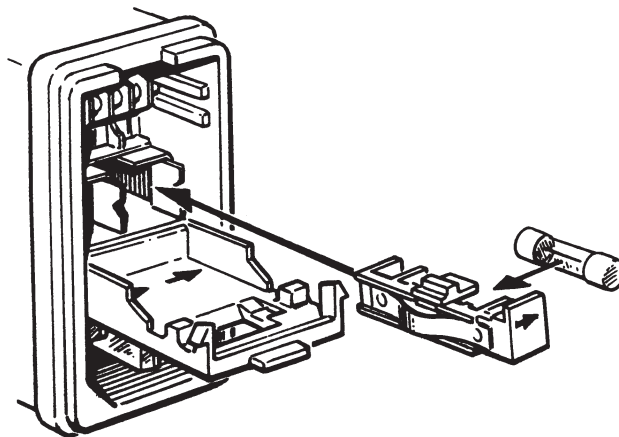

Fig 7. Installing the fuseholder. Always use the hole at the righthand side when you install the fuseholder.
4. Place the fuse into the fuseholder and install it into the instrument in the right-hand position (Fig. 7).